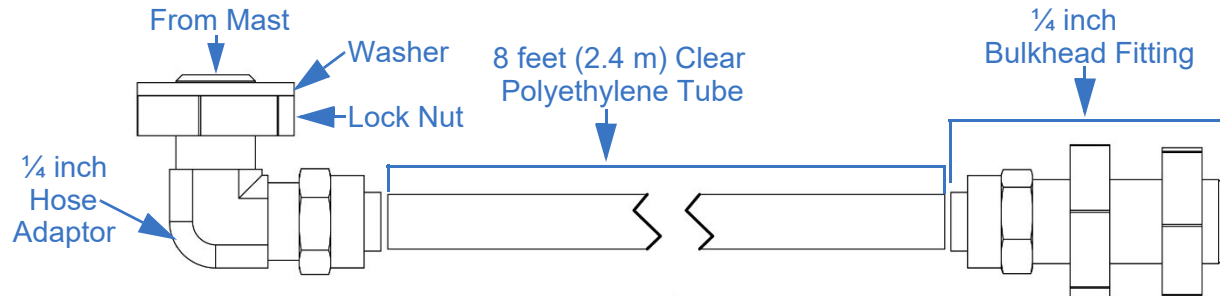

Figure 5-23 Drain Kit (P/N: 902982)
1. Be certain the locknut and washer are threaded over the end of the ¼ inch (6.35 mm) hose adaptor (Figure 5-23).
4. Fasten the bulkhead fitting (Figure 5-23) to the hole.
5. Attach the polyethylene tube to the hose adaptor and the bulkhead fitting (Figure 5-23). As necessary, the polyethylene tube may be cut shorter to fit the customer-specific application. Apply PTFE Tape to all threaded joints.